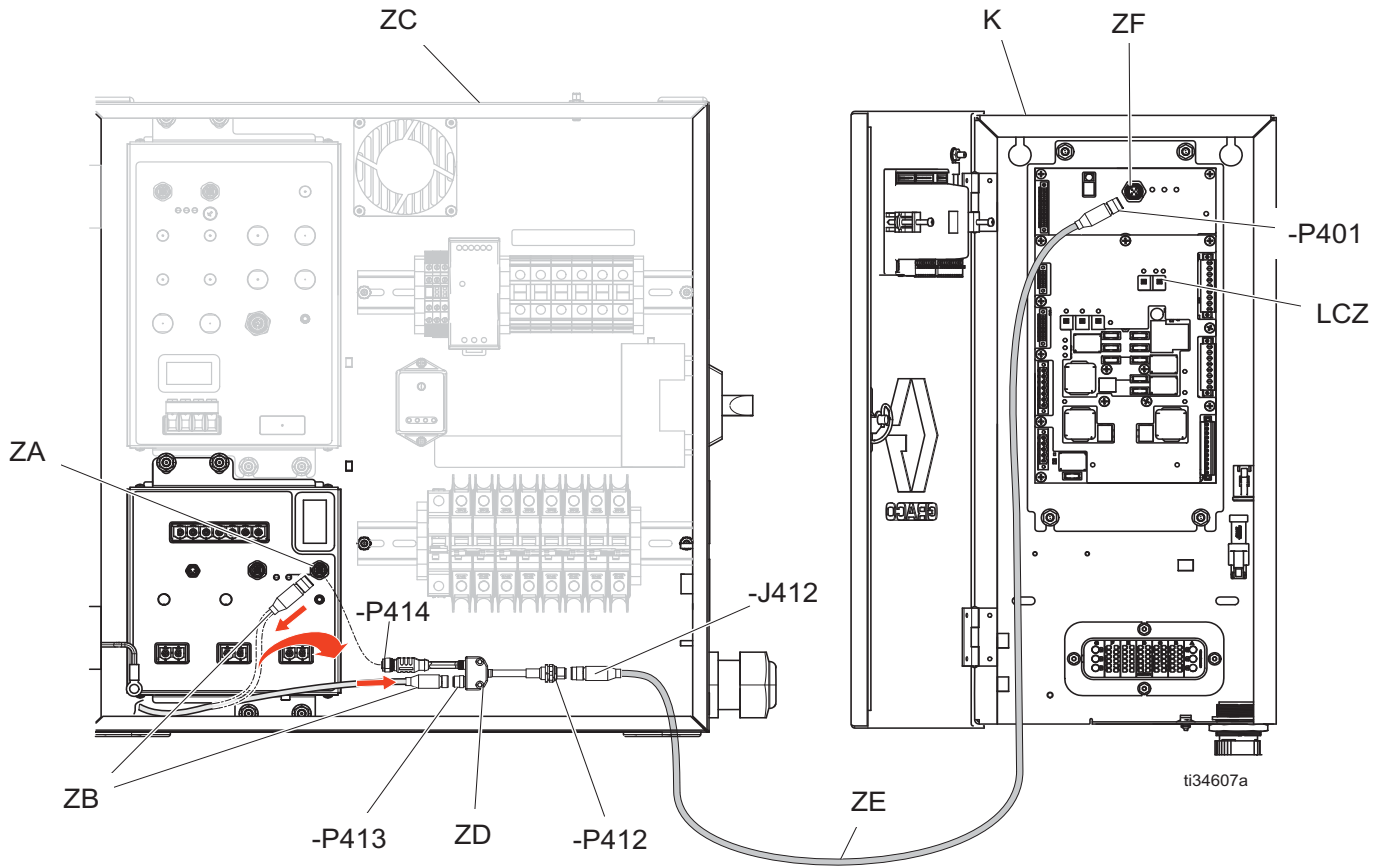

FIG. 21: Electrical Connections Between the Reactor 2 Enclosure and the Engine Control Enclosure
1. Route the M12 CAN cable (ZE) into the Reactor 2 enclosure (ZC) through the rear grommet. See FIG. 21.